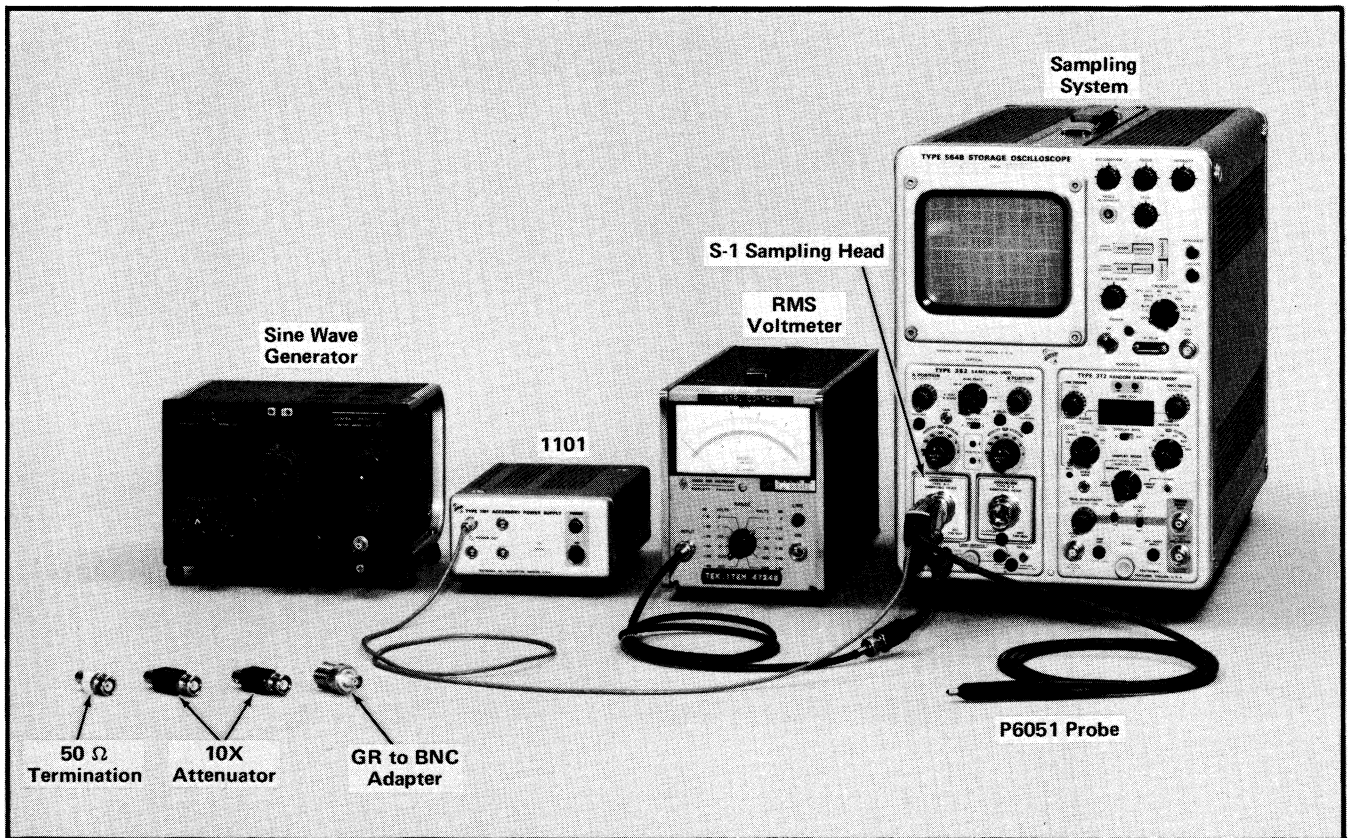

Fig. 5-6. Equipment setup to check probe noise (step 8).
- a. Equipment setup is shown in Fig. 5-6.